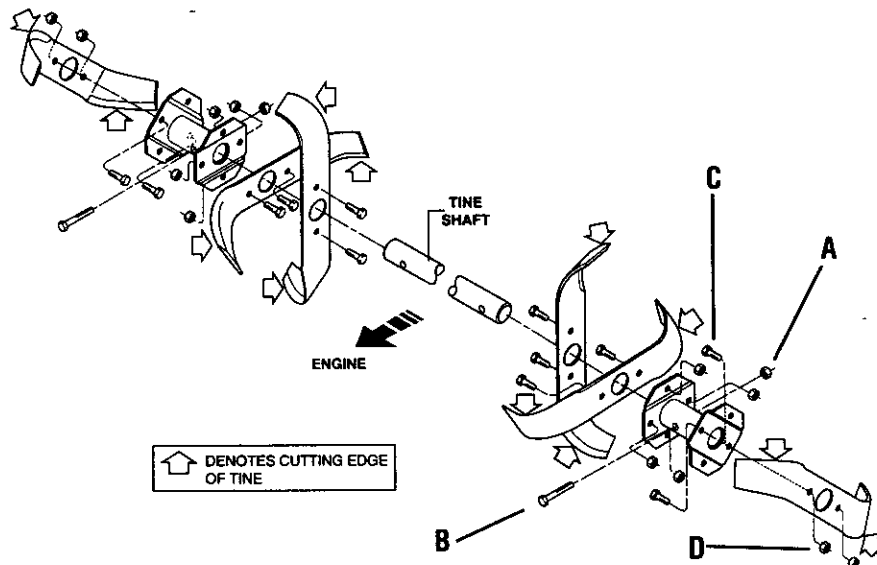

Figure 4-11
This is a CRT (counter-rotating tine) tiller and its tines must be mounted in the direction shown in Figure 4-11. If mounted with curves in the opposite direction, tiller will dig poorly and be more likely to run backwards.
1. Use a 9/16" socket, 6" extension, a ratchet, and a 9/16" box end wrench to loosen the nut (A, Figure 4-11) and screw (B) that secure the tine holder to the tine shaft.
1. Use two 9/16" box end wrenches to remove the two screws (C, Figure 4-11) and nuts (D) that secure the tine to its tine holder.
2. When installing individual tines, install them in the reverse order from which they were removed. The two sets of *inboard* tines are installed so one set faces toward the transmission housing and the other faces away from it. The single *outboard* tine set faces toward the transmission housing. *Also be sure the cutting edge at the top of each tine faces toward the operator position.* (See Figure 4-11.)